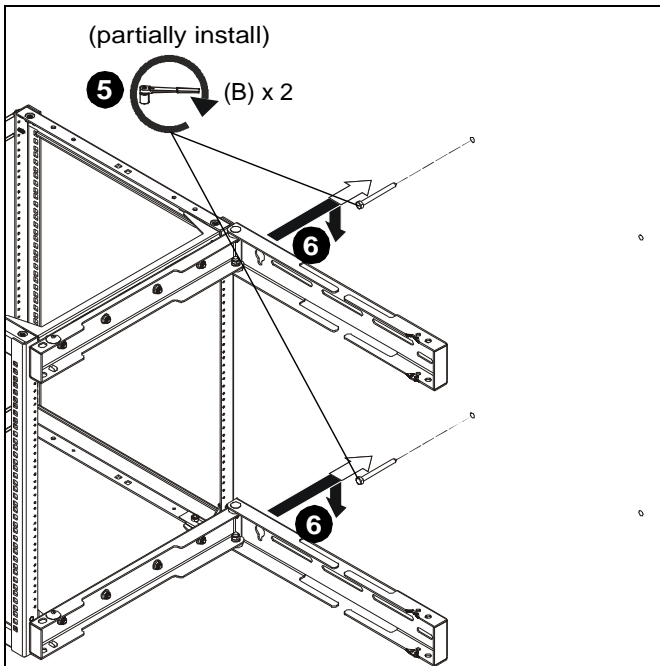

Figure 8
- Partially install two 5/16" x 3 1/2" lag bolts (B) into U10 anchors (C) on the side where the teardrop mounting holes will be used. (See Figure 8)
- Hang two swing arms (A) onto partially installed bolts. (See Figure 8)